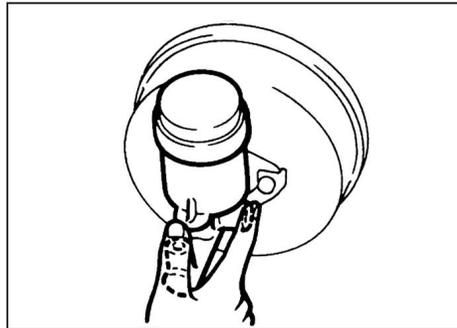

Fig. 16-13
(1) Bleeding from master cylinder (see Fig.16-13)